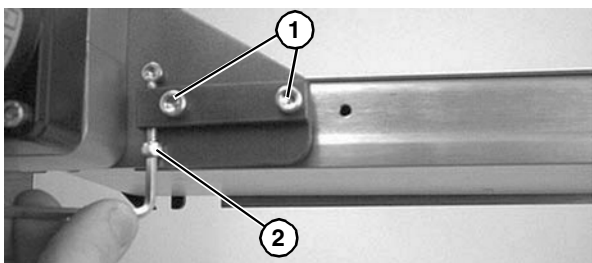

Figure 48
1. Loosen two (2) screws (**Figure 48, item 1**).
2. Loosen timing belt tensioner screw (**Figure 48, item 2**).